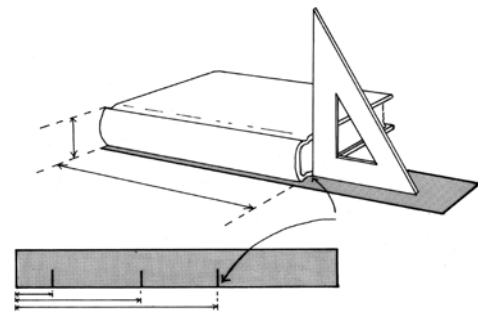

FIGURE 8
Construct a ruler-template by placing the book on a strip of paper or card and making measurement marks for longest length (L), widest width (W), and greatest thickness (H) (Figure 8).